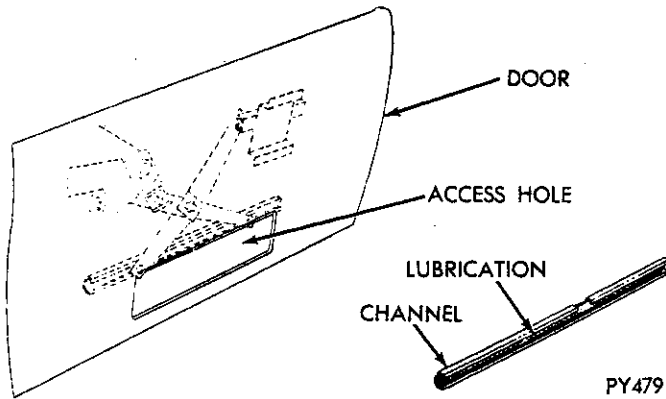

Fig. 30—Lift Channel
(4) Install left channel to regulator arm slide (Fig. 30).
LIFT CHANNEL (Fig. 30)